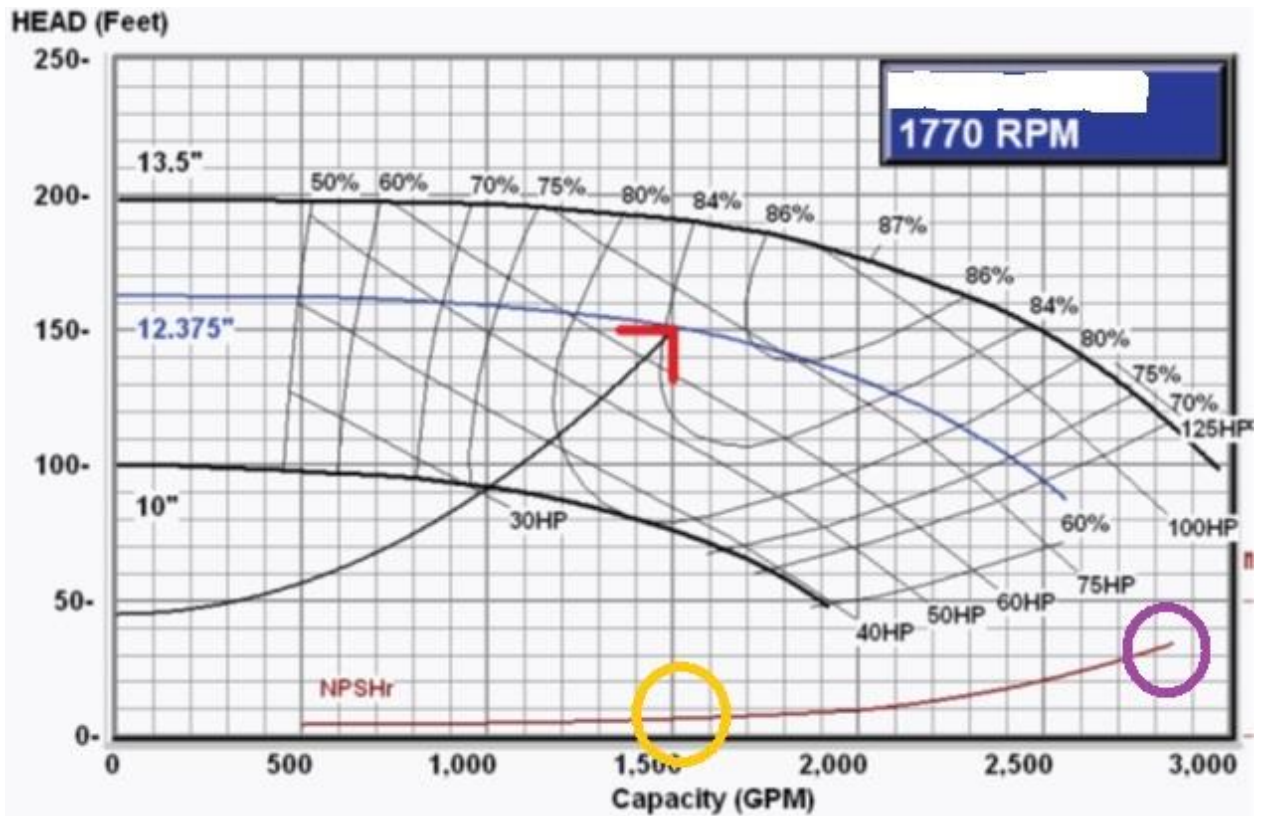
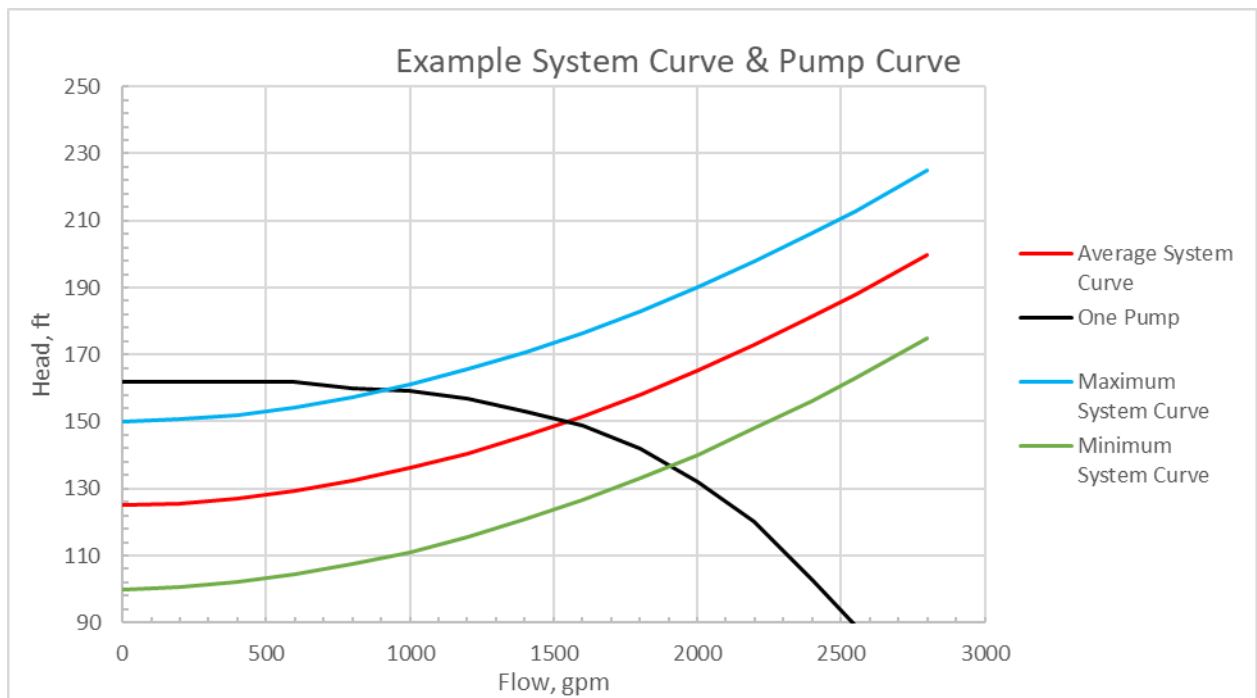
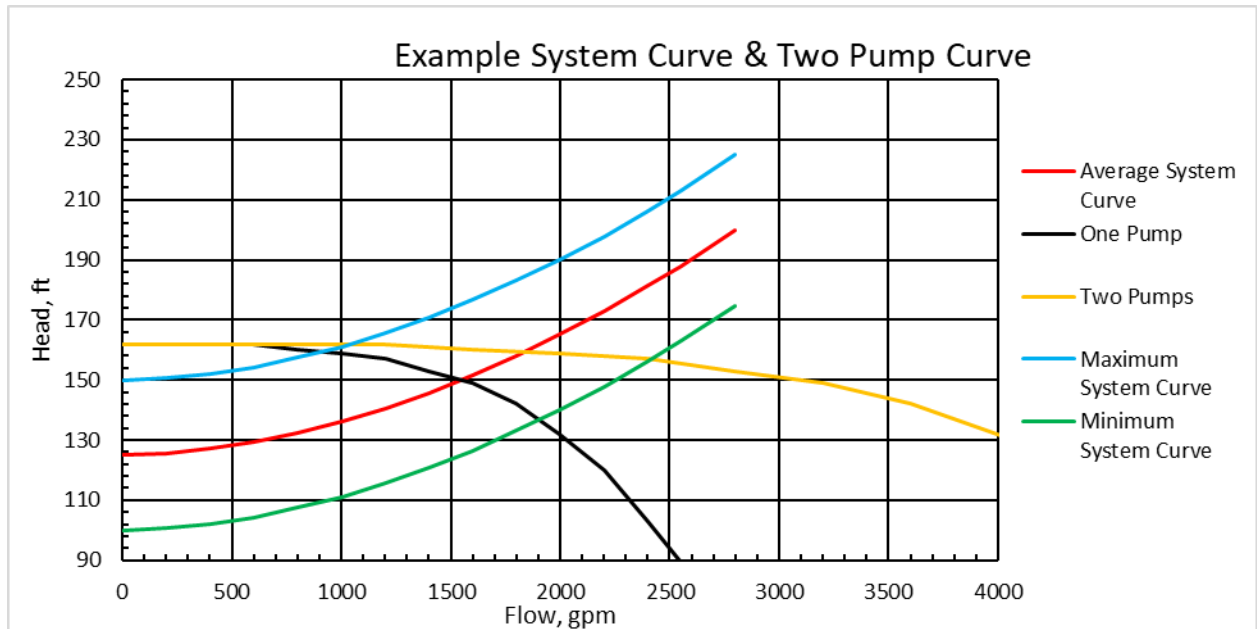

Figure 12 – Pump Curve with NPSH Requirements
Figure 16 – Example System Curve with Pump Curve Superimposed
Figure 17 – Example System Curve with Two Pumps Operating
Figure 12 shows the NPSH requirements for the pump. These are sometimes shown on the same graph as the pump curve and sometimes are shown separately. The orange circle highlights the NPSH requirement of 7 feet at the design flow. The purple circle highlights the NPSH requirement of 34 feet at pump runout. This indicates that not only are motor requirements potentially much higher near pump runout, but NPSH requirements are also potentially much higher. When comparing the NPSH available to the NPSH required, it is recommended that a factor of safety of at least 2 or 3 feet be provided to avoid the problems noted with air entering the pump bowl.
Figure 16 shows the pump curve from Figure 12, with the 12.375-inch diameter impeller, superimposed on the system curves. Under the average system conditions, the pump will produce about 1500 gpm at 150 feet of head. However, under maximum system conditions, the pump will only produce about 900 gpm at 160 feet of head. With minimum system conditions, the pump will produce about 1900 gpm at 135 feet of head. This pump will often be considered to be a 1500 gpm pump, since that is probably the design condition, but it could produce anywhere from 900 gpm to 1900 gpm, depending on the levels in the reservoir and storage tank.
In many booster pump systems, more than one pump is installed. There is a common misconception that if one pump produces 1500 gpm, operating a second, identical pump will increase the flow from the pump station to 3000 gpm. To illustrate how to determine the impact of a second operating pump, Figure 17 shows the same curves as Figure 16, but includes the pump curve for a second pump.
10. In Figure 16, what is the estimated flow when the maximum system curve is appropriate?